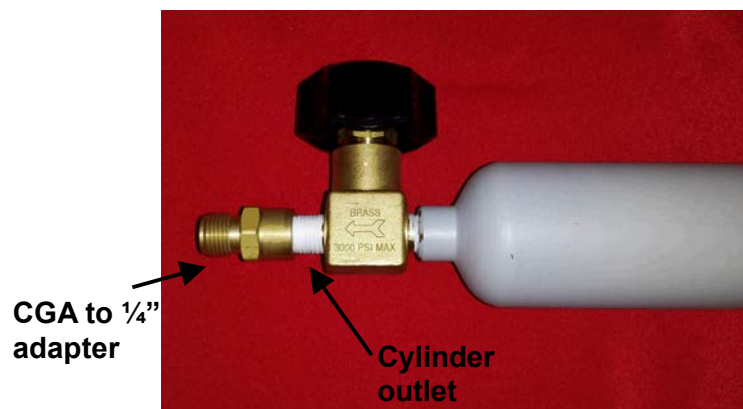

Figure 12.
4. Connect the other side of this CGA to 1/4" adapter to the gas regulator. Make sure the PTFE gasket is in place but **Do Not** use PTFE tape. Tighten with a wrench (see Figure 12).
5. Insert the needle of a compressed "gas-tight" syringe into the septum of the syringe adapter (see Figure 12).